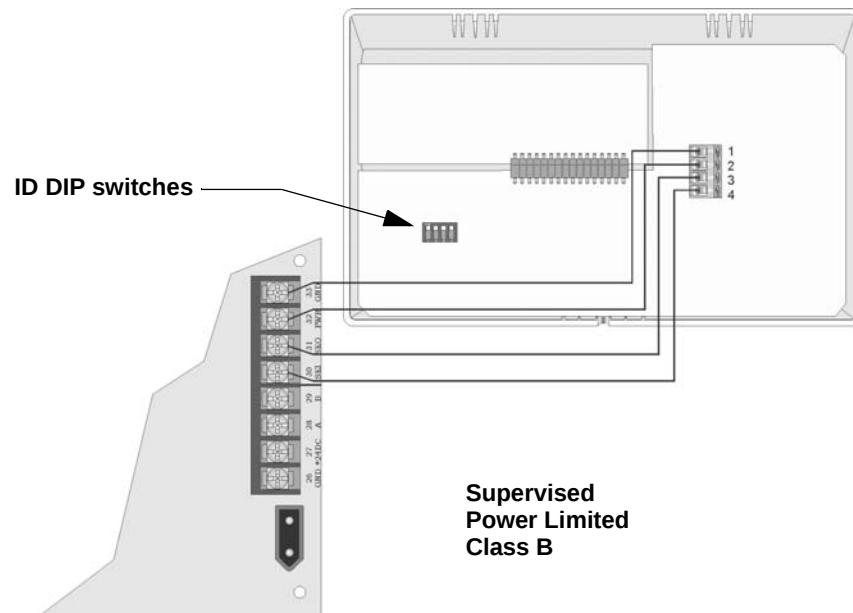

Figure 3-12 Model SK-5235 Connection
- Wire the SK-5235s as shown in Figure 3-12.